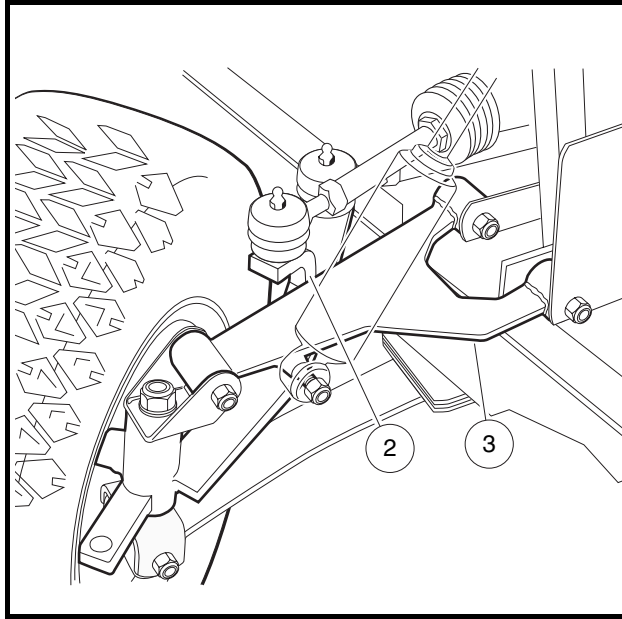

Figure 7-6 Adjust Steering Alignment
1. Turn the steering wheel all the way to the right. Note the distance between the passenger-side spindle stop (2) and passenger-side A-plate (3) (**Figure 7-6, Page 7-7**). The internal stop on the rack must reach its limit of travel against rack and pinion housing at exactly the same time the spindle stops against the passenger-side A-plate (with vehicle wheels turned to the right). If simultaneous contact occurs, steering is in correct adjustment; Proceed to step 4. If simultaneous contact does not occur, proceed to step 2.